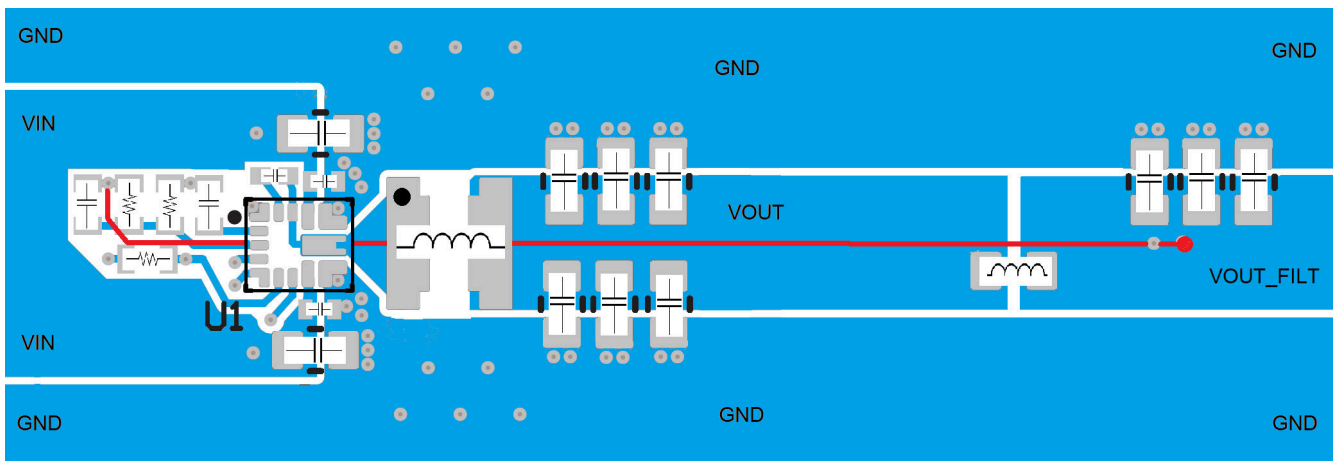

Figure 7-15. Recommended Layout for Design with Second L-C Filter
- Avoid placing the ferrite bead in the keep out region as shown in Figure 7-15
- See the recommended layout implemented on the EVM and shown in the EVM user's guide, TPS62968 Step-Down Converter Evaluation Module User's Guide, as well as in Figure 7-15.